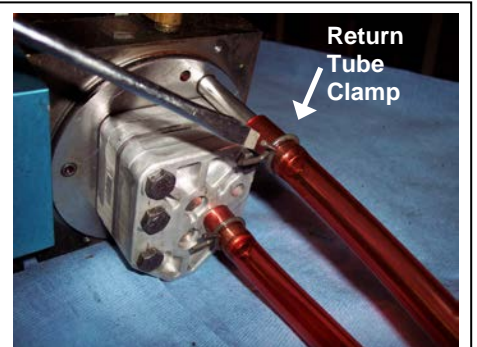

Figure 5 Pump with Hoses
- 5) Drain & remove the tank, then remove the hoses and pump **(Figure 5)**.